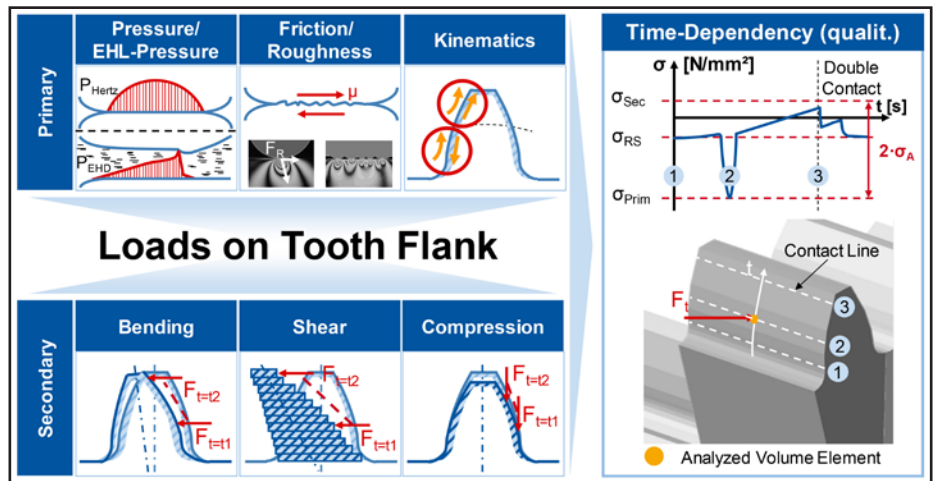

Figure 4 Time-dependency of tooth flank stresses (Ref.7).
**Pitting.** The torque transmission by gears is characterized by locally variable contact conditions on the tooth flank. Therefore, for each contact point the local loads have to be calculated. Direct results of FE-TCA are the local normal forces  $F_N$ , the sliding velocities  $v_g$  and the normal force asymmetry factor  $\lambda$  (kinematics). The stress cycle that an element on the tooth flank is exposed to during the contact can be divided into two different phases: primary and secondary loads (Fig. 4).
For the time-dependency of stresses (Fig.4) the state of stress at each volume element is recorded over the entire mesh. Afterwards, the state of stress is compared locally to the material